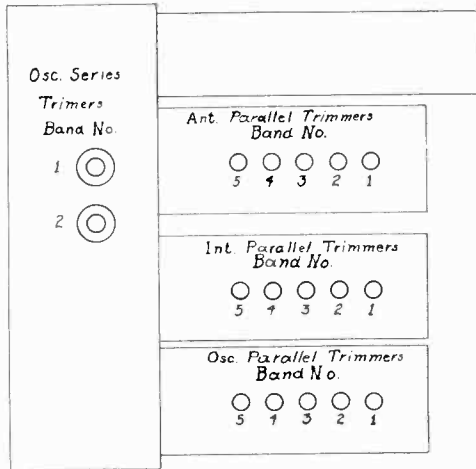

Fig. 3 End View
(a) Set test oscillator at 350 Kc. Tune station selector to 350 Kc. (35 on dial). Then adjust oscillator parallel trimmer condenser, Fig. 3, for maximum output.
(2) Tune station selector in the region of 15—Band No. 1—on dial for maximum reading on the output meter.
(3) Close the oscillator series trimmer condenser for Band No. 1, Fig. 3, ¼ turn and re-tune station selector to 150 Kc. signal for maximum output, noting reading on output meter.
(4) If meter reads higher after operation (3) repeat the operation again and again until no further improvement in the reading of the output meter can be obtained. If meter reads lower after operation (3) open the oscillator series trimmer condenser ¼ turn and re-tune station selector to 150 Kc. signal, noting reading on output meter as above and repeat as many times as necessary to obtain the highest meter reading. Do not reset the parallel trimmer condensers at this frequency.
(2) Tune station selector in the region of 60—Band No. 2—on dial for maximum reading on the output meter.
(3) Close the oscillator series trimmer condenser for Band No. 2, Fig. 3, ¼ turn and re-tune station selector to 600 Kc. signal for maximum output, noting reading on output meter.
(4) If meter reads higher after operation (3) repeat the operation again and again until no further improvement in the reading of the output meter can be obtained. If meter reads lower after operation (3) open the oscillator series trimmer condenser ¼ turn and re-tune station selector to 600 Kc. signal, noting reading on output meter as above and repeat as many times as necessary to obtain the highest meter reading. Do not reset the parallel trimmer condensers at this frequency.